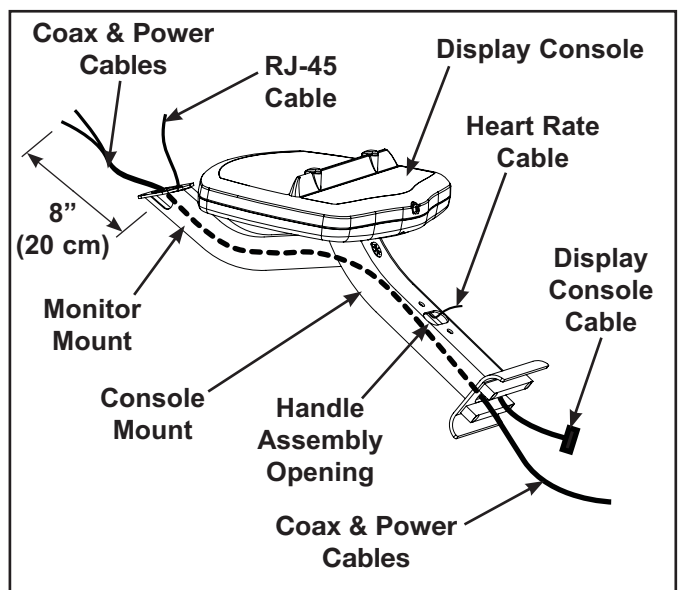

Figure 17
- A. Insert the display console cable down through the console mount and exit the bottom. See Figure 17
- B. Insert the RJ-45 cable up through the monitor mount and exit the top. See Figure 17.
- C. Insert the coax and power cables into the bottom of the console mount until 8" (20 cm) of cable exits the top. See Figure 17.